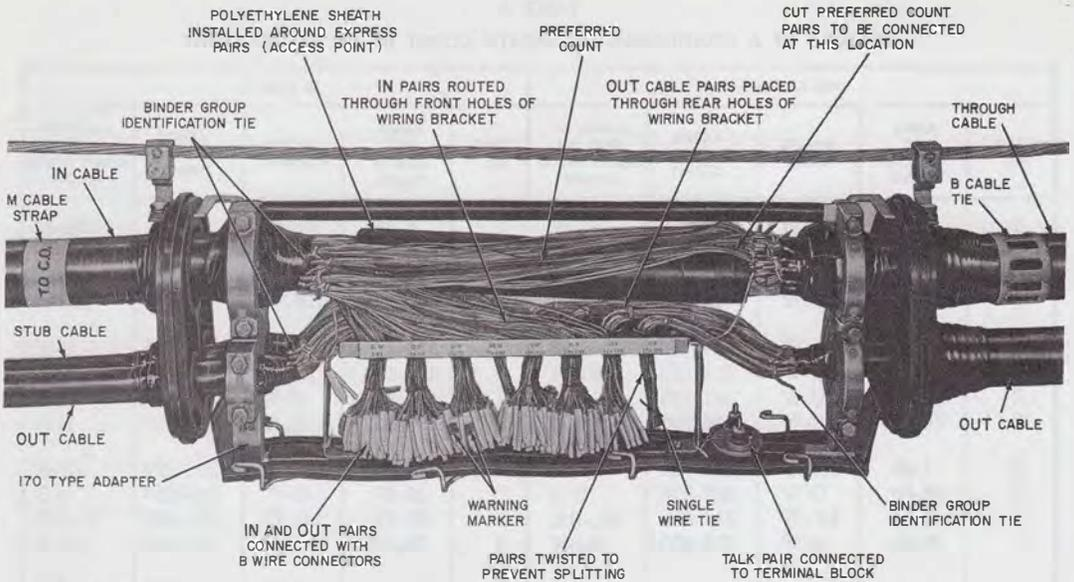
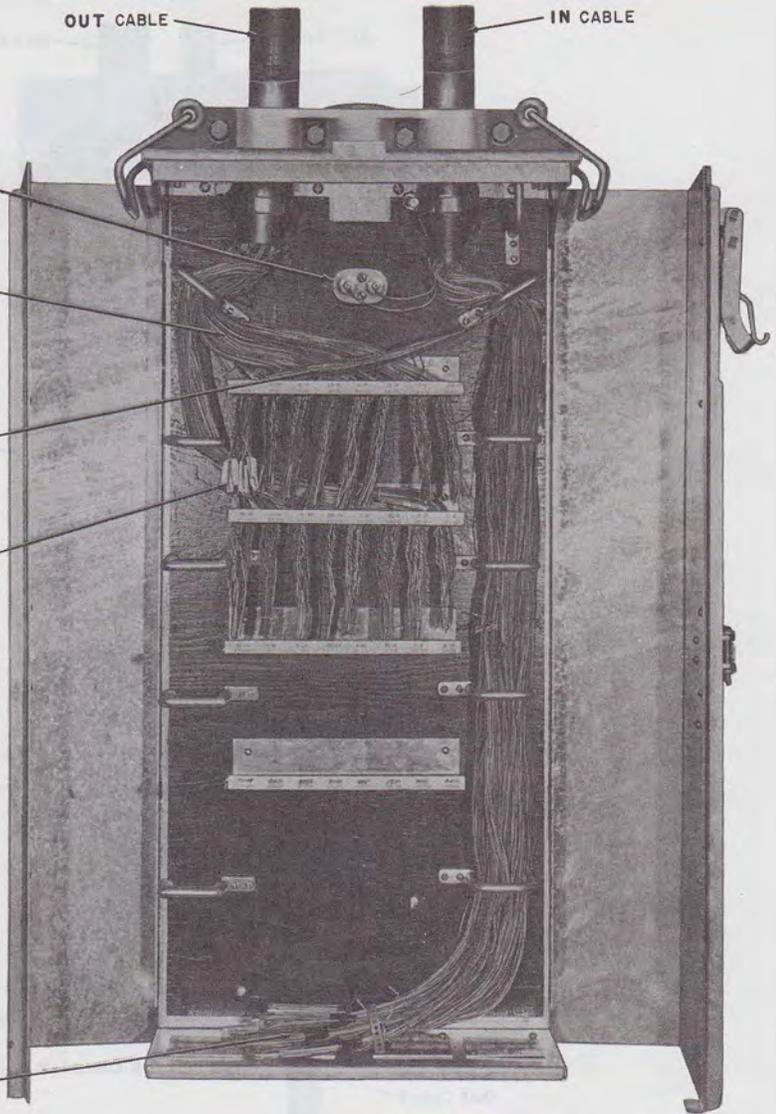

Fig. 2—1B1 Closure
Fig. 4—29-Type Cabinet (Wall Mounted)
- (a) A green B cable tie placed around the *EXPRESS* cable of a strand-mounted access point (Fig. 2). A red B cable tie identifies a control point (Fig. 4).
- (a) *Strand-Mounted Access Point*—The 1B1 closure (Fig. 2) is used as a strand-mounted access point.
(b) **Pole- and Wall-Mounted Access Points**—The 5-type closures (Fig. 3) and the 29-type cabinets (Fig. 4) are used to enclose pole- and wall-mounted access points.